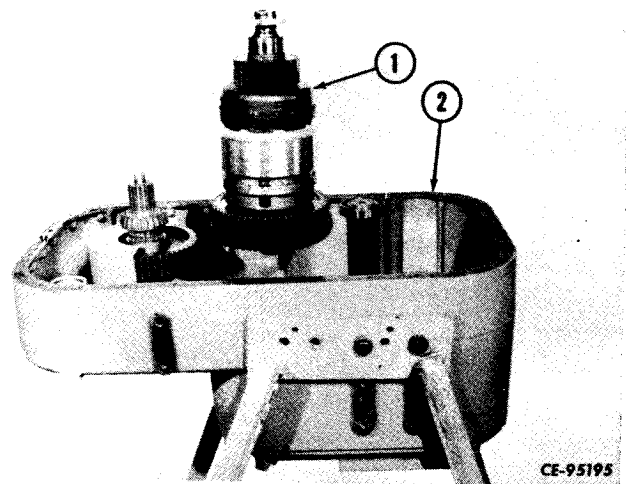

Figure 4-61
Attach lifting tool (refer to "SPECIAL TOOLS") to first and third clutch pack (1, Fig. 4-61) (pack with large double gears on one end) and lower assembly into housing (2).